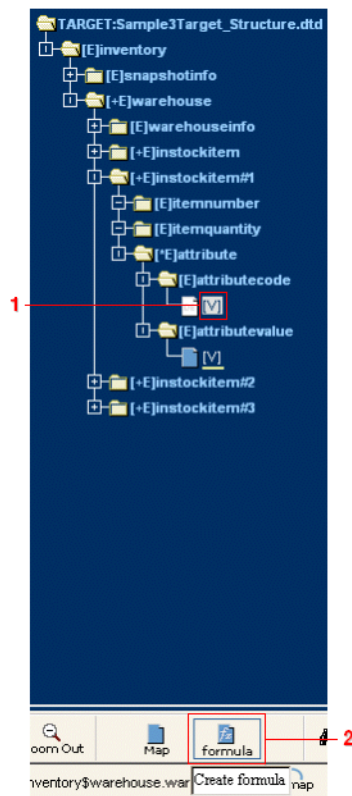

Figure 24-6. To modify a data element's value, select the desired data element, then click the **Formula** button to launch the Formula Builder.
- ❶ Select the `attributecode` folder's value data element ([V]) in `attributecode`'s `attribute` folder within `instockitem#1`.
- ❷ Click the **Formula** button to launch the Formula Builder (see Figure 24-6 below).